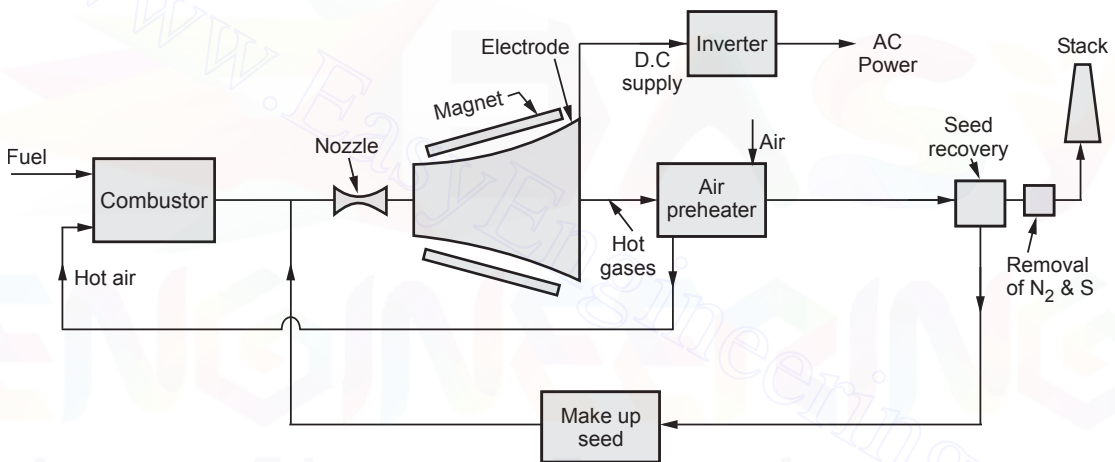

Fig. 5.10.2 Block diagram of open cycle MHD power station
- Block diagram of a typical open cycle MHD power plant is shown in Fig. 5.10.2.